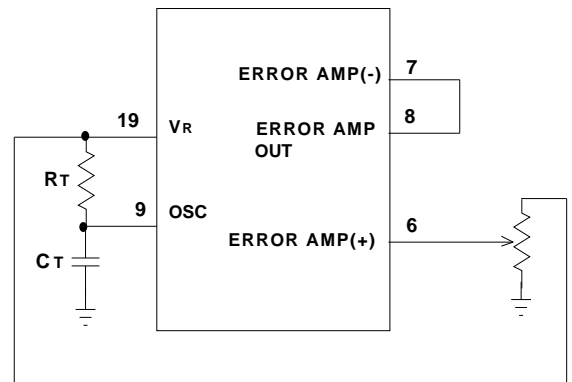

FIGURE 5. OPEN LOOP CONTROLLER
**FIGURE 5.** In this configuration, the PWM output duty cycle to the motor drivers is directly proportional to the DC voltage applied to Pin 6, since Pins 7 and 8 are tied together.